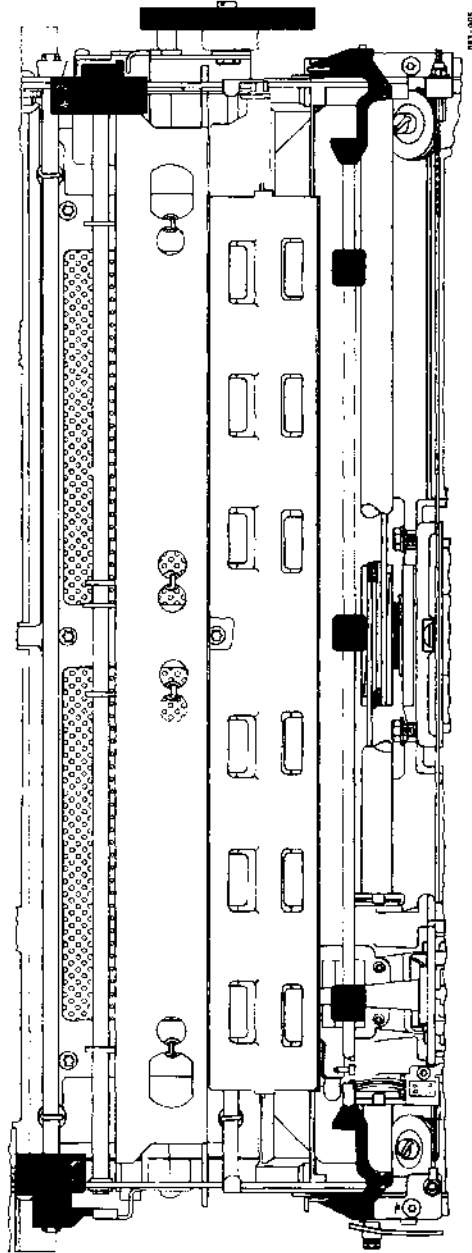

Figure 3-5. Power Supply Mounting
- (1) Turn the power off and unplug the power cord from the ac outlet.
- (2) Move the HyTerm to a location where both the top and bottom are accessible when the HyTerm is tilted back (preferably a work bench).
- (3) Remove the top cover following the procedure in 3.1.2. Remove the paper cradle (see Figure 3-5).
- (4) Tilt the HyTerm up so it is resting on the rear edge of the bottom cover, and remove the screen-like bottom pan. Loosen the three rear screws and remove the three forward and two side screws; then slide the bottom pan off the HyTerm. Lay the HyTerm back on its feet.
- (5) Look down into the platen area of the printer and locate the power supply, which is covered by an aluminum screen. Remove the four mounting screws from the top of the power supply (see Figure 3-5). The supply will drop slightly and rest on the work surface.
- (6) Tilt the HyTerm up slightly and reach underneath to hold the power supply with your hand (to prevent it from falling). Then tilt the HyTerm all the way up so that it rests on the rear edge of the bottom cover.
- (7) Slide the power supply out of the printer enough to access the terminal strip at the right side of the power supply. Disconnect the wiring from the terminal strip. Set the power supply aside and set the HyTerm down on its feet.